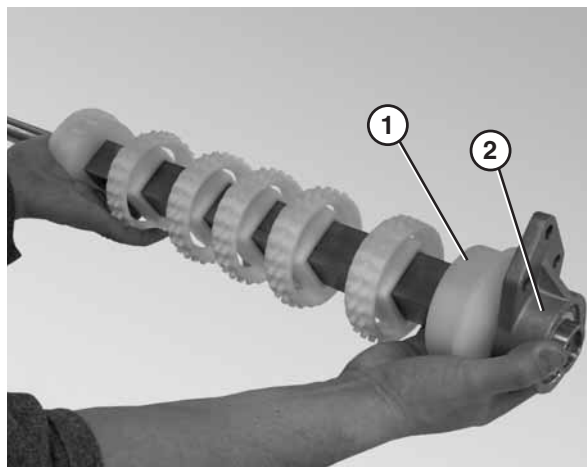

Figure 73
9. Slide the 3 hole flange with bearing (**Figure 73, item 1**) and flanged puck (**Figure 73, item 2**) off the drive spindle.